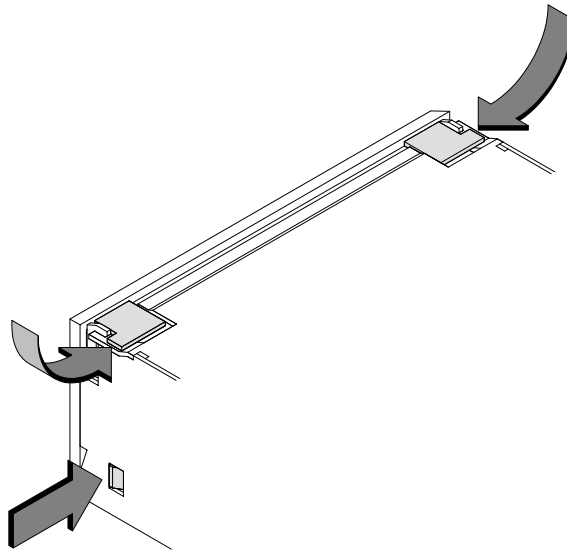

Figure 3-2. Removing a Bezel from the DDS-3 Drive
- To remove a bezel from a drive, use a straight blade screwdriver to lift the bezel tabs from the top of the drive, and push in the tabs on the sides of the drive. Refer to Figure 3-2.